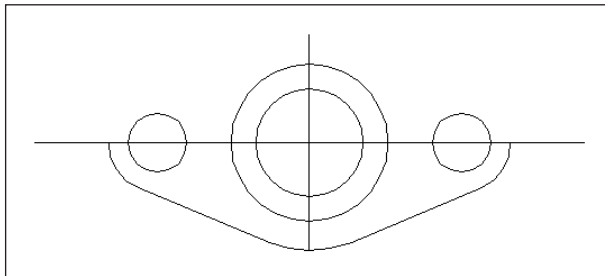

Figure 7-6: The partially completed sealing plate, created by using lines, circles, and arcs
15. Save your drawing. Your drawing should look like Figure 7-6. You can complete this drawing in Chapter 10 by creating a mirror image.